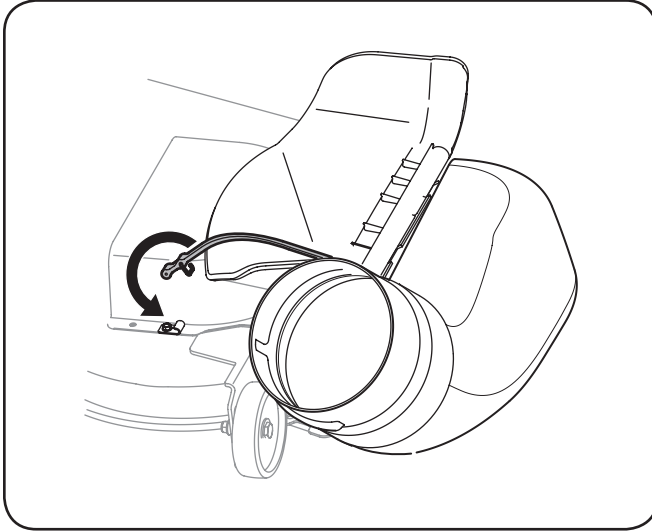

Figure 4-22
6. Attach the retainer strap on the discharge chute to the retainer clip on the deck. Refer to Fig. 4-22.